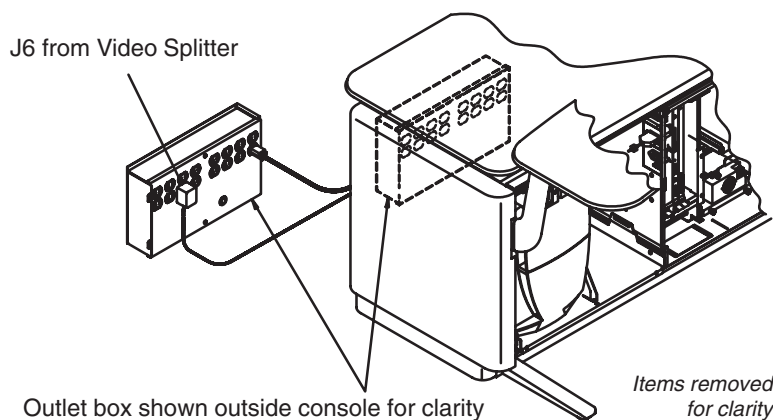

Figure 1-9 Operator Console Outlet Box
- 9.) Plug the video splitter AC adaptor into one of the console's power outlets. Refer to Figure 1-9.